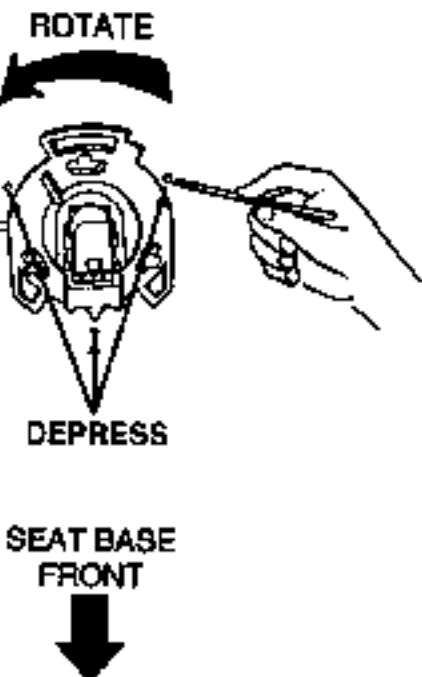

Figure 5-13. Seat Switch Removal
- a. While applying light counterclockwise pressure on the switch, release the switch locking fingers by inserting a small punch (or similar object) into each of the three small holes in the seat pan (see Fig. 5-13) and lightly depressing the fingers.